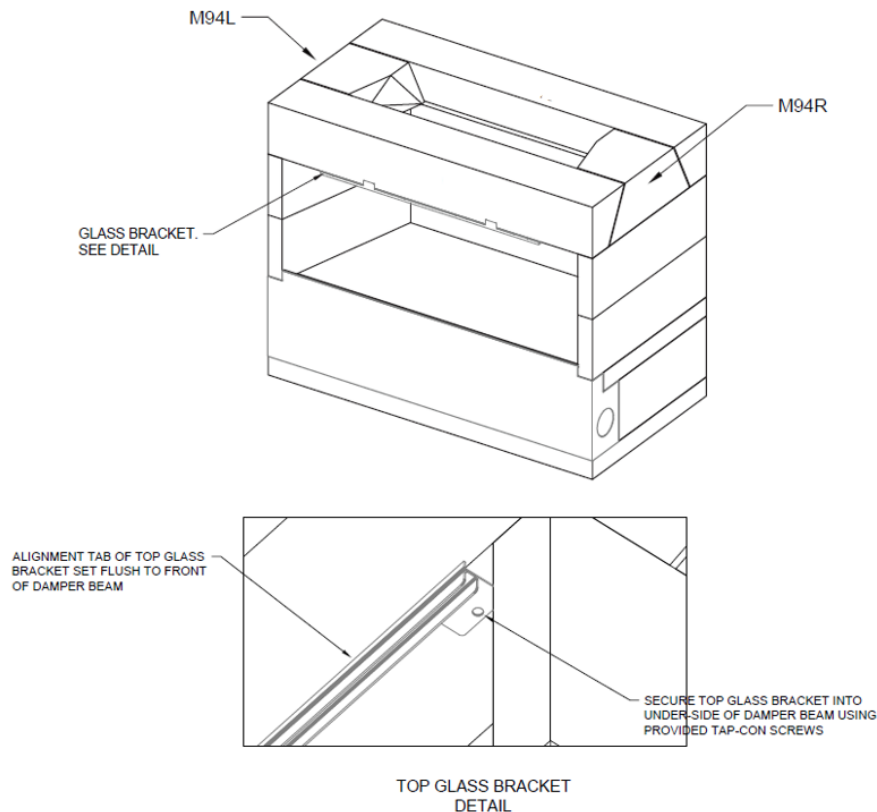

FIGURE 18
10) For the 48" model, secure the Top Glass Bracket B (E-TG1) to the underside of the front damper beams using the provided 1/4" tap-con screws. The tap-con screws will require a 3/16" pilot hole to be drilled prior to attachment. It is recommended to coat the 1/4" tap-con screw with Earthcore Adhesive before inserting into pilot hole to create a sealed fastening (**Figure 18**).